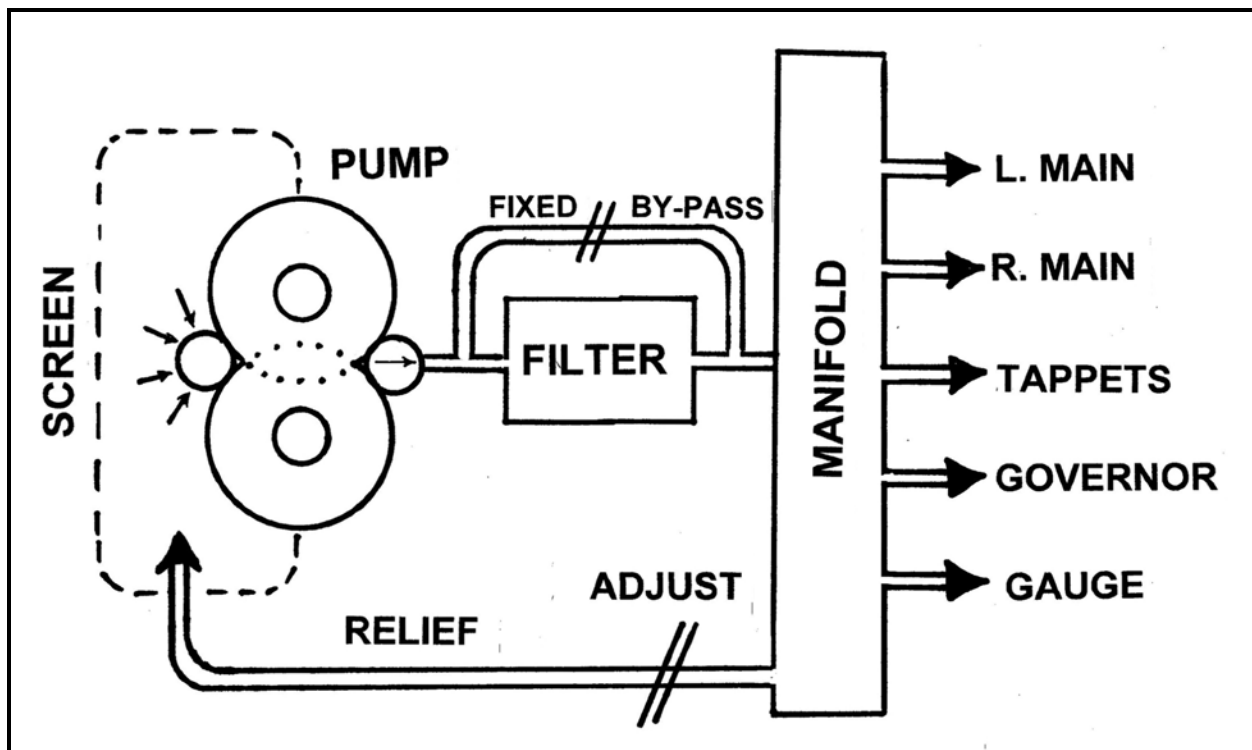

Figure 14-1, Schematic Diagram of Engine Oiling
Pressure Regulation – Figure 14-3A illustrates the regulating part of the engine lubricating system. The adjust screw, when turned INWARD (CW) will exert pressure on the thin-looking relief spring by means of (unseen) a small coil spring – to increase oil pressure. The relief spring is pressed up against the sixth port of the manifold. Only when pressure exceeds a preset amount will the relief spring be pushed back to allow Relief oil (Fig 14-1) to return to the pump’s input side.
Fixed By-Pass for the Oil Filter -- As visualized in figure 14-1, and briefly stated in the paragraph below figure 14-1, The oil filter head contains a “spring-tensioned gate” relief valve. Figure 14-5A illustrates the spring contained in the cap section. In figure 14-5B, we see the leaf spring with its pilot; the valve port being just below the pilot. This valve operates under a fixed tension, and is designed to permit the system to continue to oil the engine long after the oil filter has become clogged. When this happens, of course, unfiltered oil is lubricating the engine.